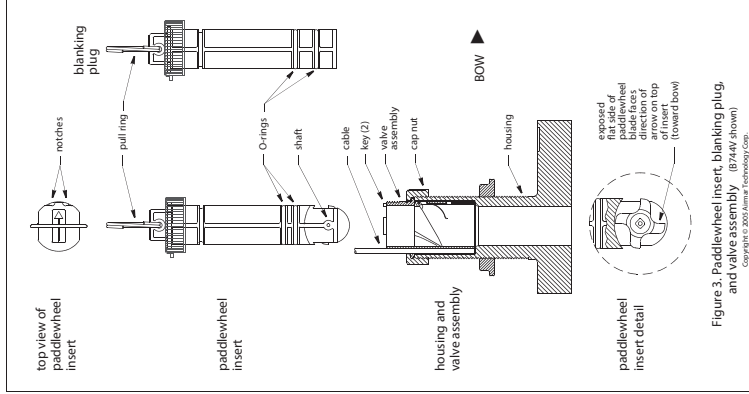

Figure 3. Paddlewheel insert, blanking plug, and valve assembly (B744V/VL shown)
- After the sealant cures, inspect the O-rings on the paddlewheel insert (replace if necessary) and lubricate them with the silicone lubricant supplied (Figure 3). The O-rings must be intact and well lubricated to make a watertight seal.
The multisensor incorporates a self-closing valve which minimizes the flow of water into the vessel. When the paddlewheel insert is removed (Figure 3), the curved flap valve is activated by both a spring and water pressure. Water pushes the flap valve upward to block the opening, so there is no gush of water into the boat.
1. On the blanking plug, inspect the O-rings (replace if necessary) and lubricate them with silicone lubricant or petroleum jelly (Vaseline®). Figure 3. The O-rings must be intact and well seated. Do not over-tighten.
4. Slide the blanking plug into the housing. Seat it into place with a pushing twisting motion until the keys fit into the notches (Figure 3). Screw the INSERT nut in place and hand-tighten only. Do not over-tighten.
1. On the blanking plug, inspect the O-rings (replace if necessary) and lubricate them with silicone lubricant or petroleum jelly (Figure 3). The O-rings must be intact and well lubricated to make a watertight seal.
3. Separate the paddlewheel insert from the valve assembly by unscrewing the INSERT nut (Figure 3). Grasp the pull ring and pull slowly upward.
5. To reinstall the valve assembly, inspect the O-rings on the paddlewheel insert (replace if necessary) and lubricate them with silicone lubricant or petroleum jelly (Figure 3). The O-rings must be intact and well lubricated to make a watertight seal.
1. Using the new paddlewheel shaft, push out the old shaft about 6 mm (1/4"). With pliers, remove the old shaft (Figure 3).